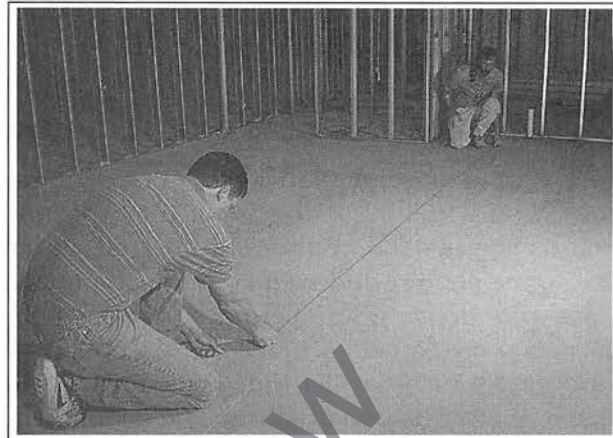

Figure 1-14. In this example you see the chalk line being pulled well past the far crow's-foot, and adjusted to the crow's-foot.
Step 2 Hold the end of the chalk line down to the first crow's-foot, then pull the chalk line past the second crow's-foot, as far as you can accurately line up the chalk line on the crow's-foot (Figure 1-14).